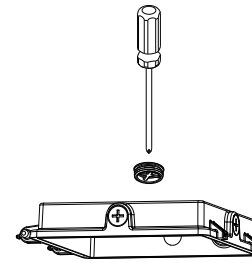

FIGURE 1-2
2. Loosen the 3/4 plug on the driver box cover by screwdriver (Figure 1-2)